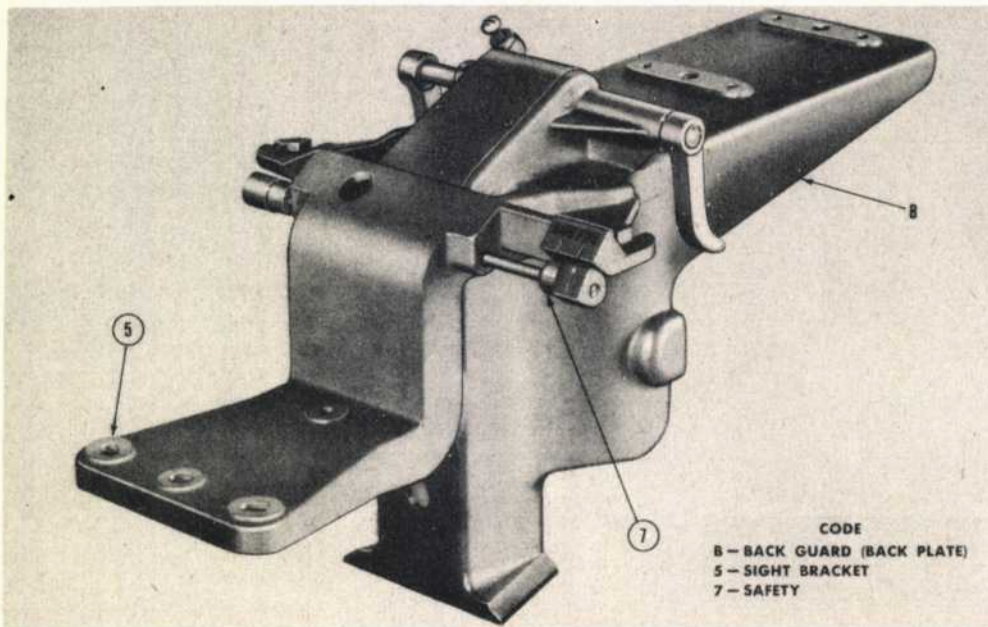

Figure 5—Back Guard (E-13 Backplate) With Sight Bracket
(3) THE TYPE E-13.—The type E-13 adapter back guard, consists of an E-11 back guard assembly upon which a bracket has been placed to accommodate the type K-13 gun sight. A safety linkage (7, figure 5) is provided for the reason that the original safety is rendered inaccessible by the addition of the sight bracket.